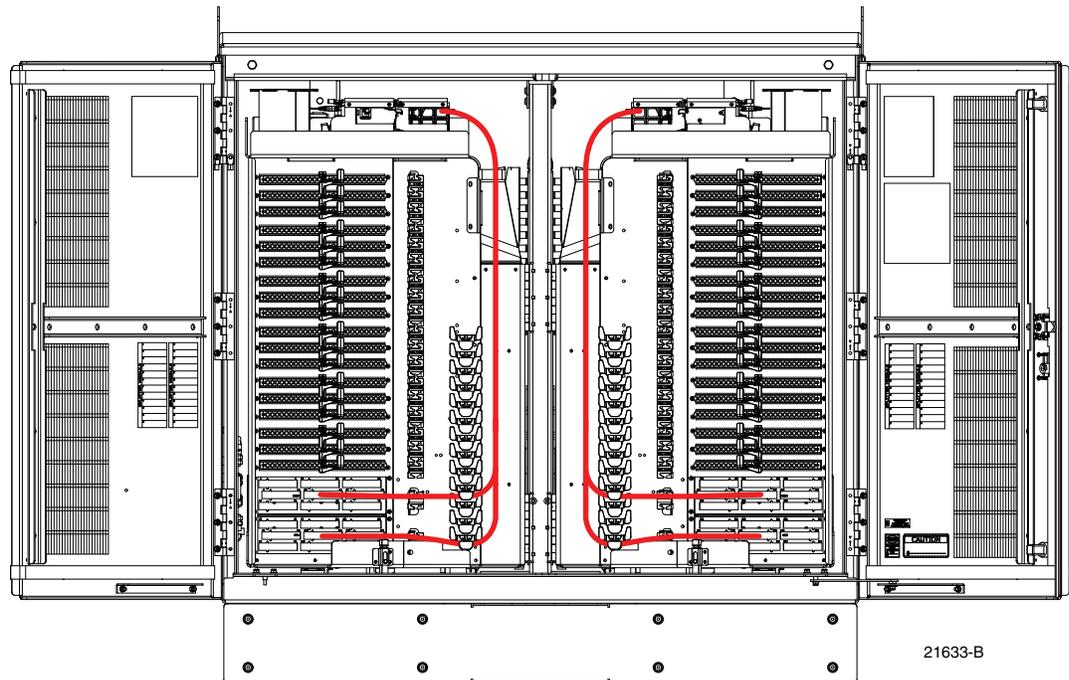

Figure 30. Routing Splitter Output Fibers for Storage
3. Use the radius limiters to store any excess fiber slack. Refer to Figure 30 for the routing guidelines.